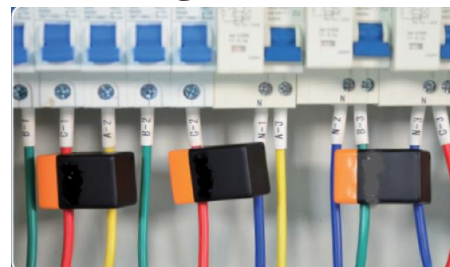

Figure 4
- Prototype using induced current (Figure 4) [11]